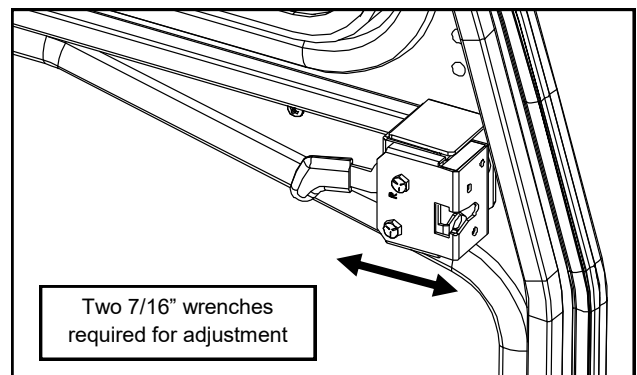

Fig. 18.2b (door latch adjustment)
- Adjust the latch located inside the door horizontally - See fig. 18.2b